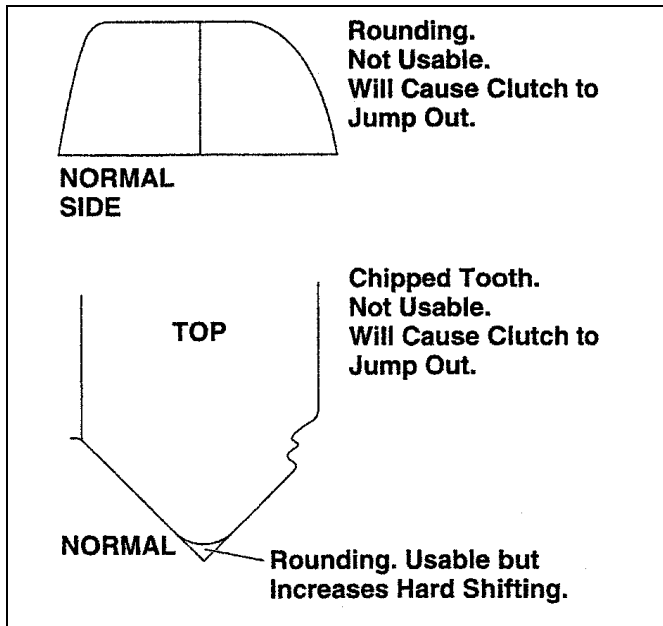

Figure 3-3. Clutch Tooth Inspection
- a. Check clutch teeth. Inspect clutch teeth for rounding as shown in figure 3-3. Face rounding will cause the clutch to jump out. Reject such parts. Clutch teeth with rounding on the end are usable but will cause hard shifting. In general, clutch teeth with chips may be blend-repaired in the same manner as gear teeth (figure 3-4) except as shown on figure 3-3.
Repair shall be limited to blend-repair of chips within the limits shown in figures 3-3 and 3-4.